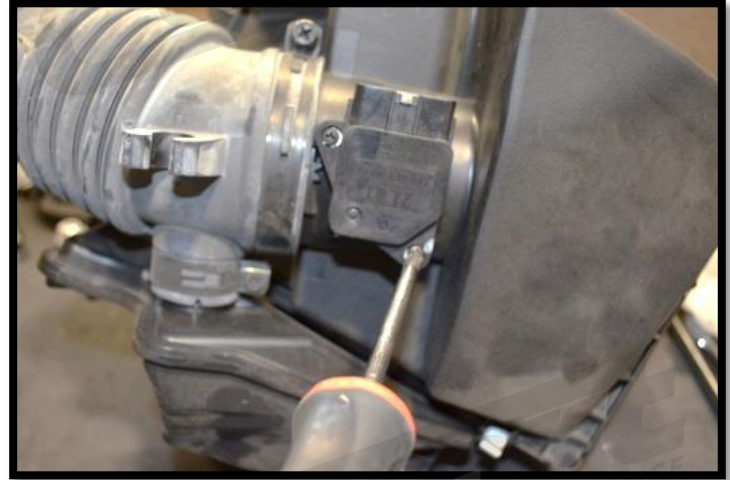

Figure 6a
- a) Remove the MAF sensor from the factory air filter housing by removing the two Phillips head screws and gently prying the sensor free (Figure 6a).